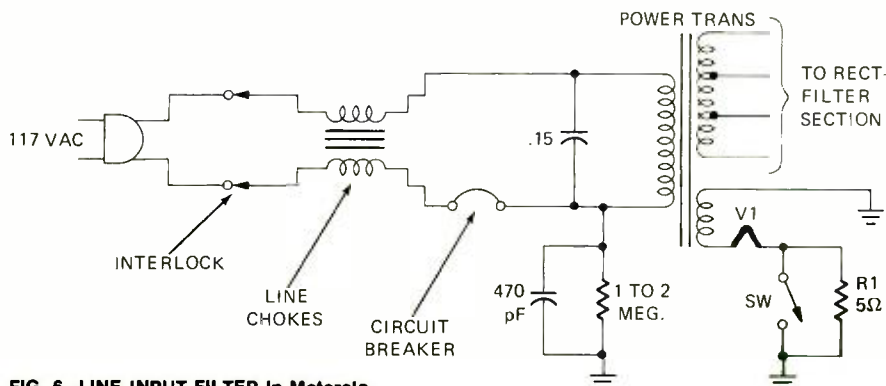
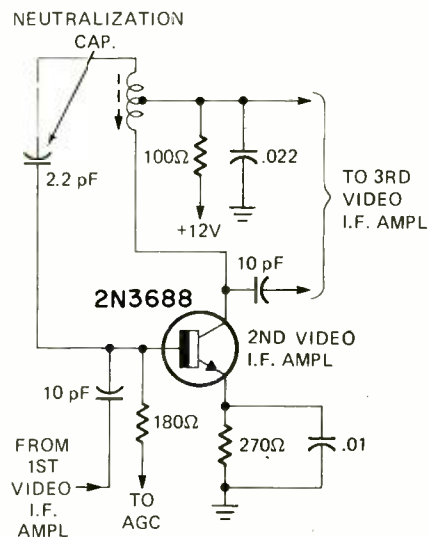

FIG. 6—LINE INPUT FILTER in Motorola.
FIG. 7—TRANSISTOR neutralization in a Sylvania A06-1 series chassis TV receiver.
The filter shown in Fig. 6 (Motorola TS-592 series) is typical of a number of line filters in transistor TV sets. A single-core dual-inductance line filter is used, with one coil for each line as shown. In addition the primary is shunted with an  $0.15\text{-}\mu\text{F}$  capacitor, and one side of the line is chassis-grounded through a high-ohm resistance shunted by a  $470\text{-pF}$  capacitor for rf signal bypass.
right as shown in Fig. 6 to open the breaker in case the capacitor develops a short.
Triode-type transistors, like triode tubes, must be neutralized to prevent self-oscillation. Fig. 7 (the Sylvania A07-1 series chassis) is a typical circuit. A  $2.2\text{-pF}$  capacitor couples the lower
**FIG. 6—(above) CRYSTAL CONTROLLED timebase circuit is actually easier to build than the line-frequency timebase circuit shown in FIG. 7 (below). However, the timebase IC used in the crystal circuit is relatively expensive.**
single IC and automatic AM-PM display circuitry, is shown in Fig. 6 and Fig. 7. The parts list is on page 62. If you are doing your own PC board, free drawings are available as described on page 62.